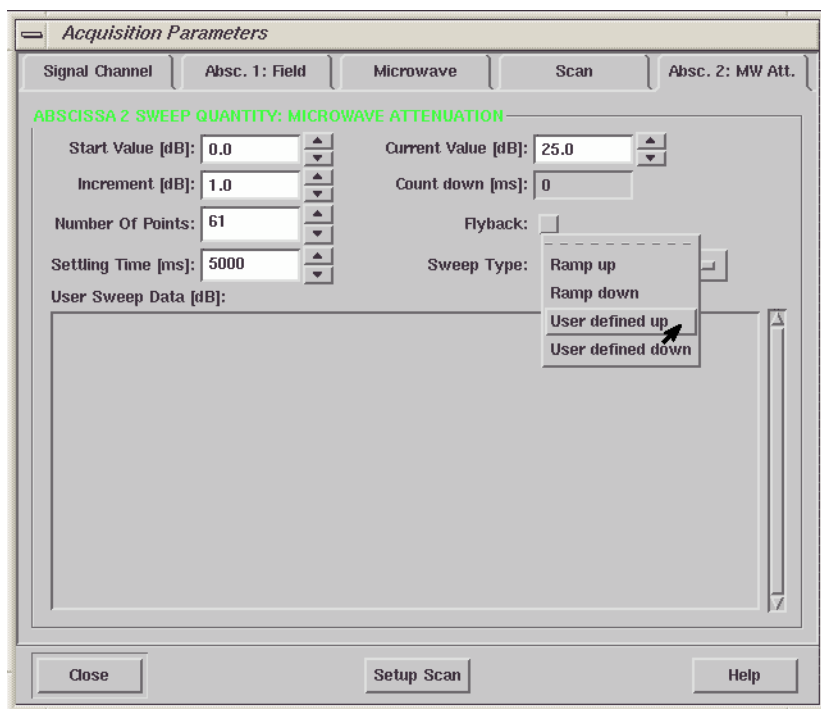

Figure 7-9 Selecting the user-defined scan for microwave attenuation.
2. **Select a user-defined increment.** Click the Parameter button to open the dialog box. Click the Absc. 2 MW Att. folder. Click Sweep Type and select User defined up (or User defined down) in the drop-down list. (See Figure 7-9.)